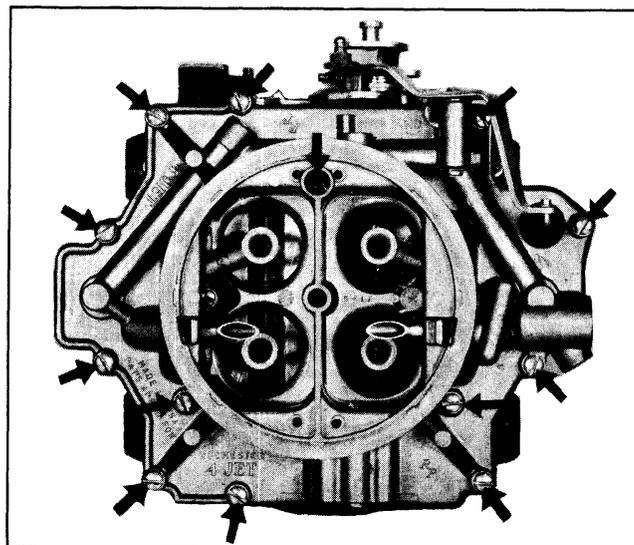

Fig. 8-91 Air Horn Attaching Screws
11. Remove the 13 air horn to carburetor body attaching screws as follows: (See Fig. 8-91). First, remove the 1 air